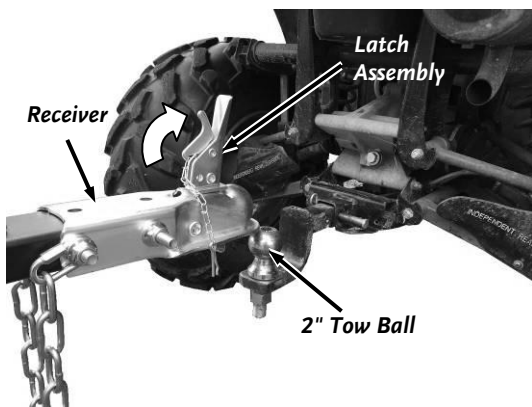

Figure 17
1. Remove the Locking Pin and Pull the Latch assembly on the Receiver up into the open position (**Figure 17**). Position the Receiver onto the tow vehicle's Tow Ball (must be a 2" Tow Ball).